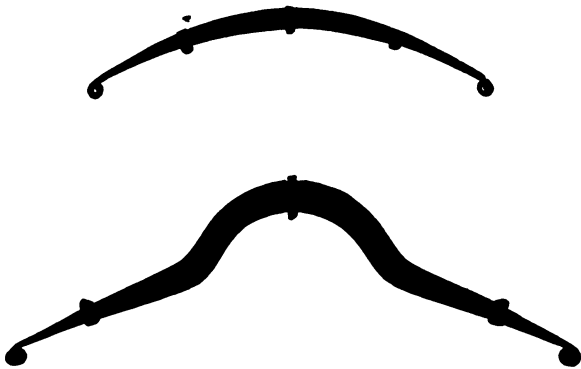

Figure 31.—Front and Rear Springs.
*Springs.*—The Ford car uses but two springs and these are of the semi-elliptic type as shown in Figure 31. Contrary to ordinary practice, the Ford springs run crosswise of the car rather than lengthwise. The front end of the frame is carried at the center of the front spring and the rear end of the frame is carried at the center of the rear spring. The outer ends of the springs rest on the axles close to the wheels.